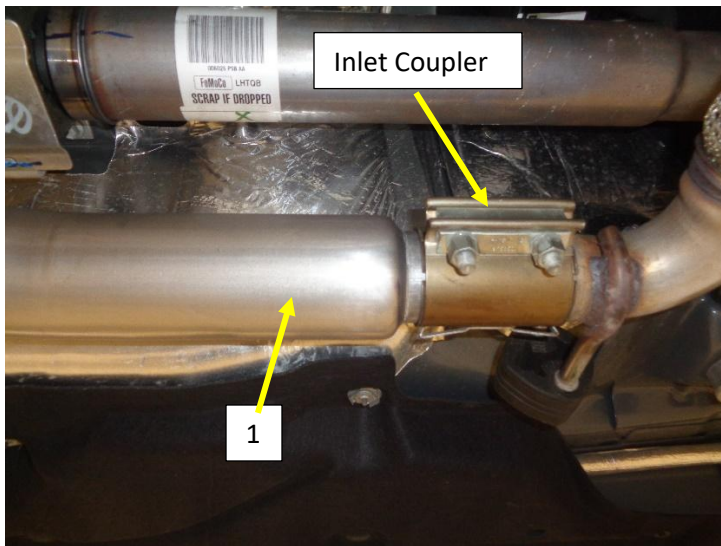

Figure.3
1. Install the reduced end of the Flowmaster Y-Pipe (1) into the coupler at the flex joint. **Fig.3**